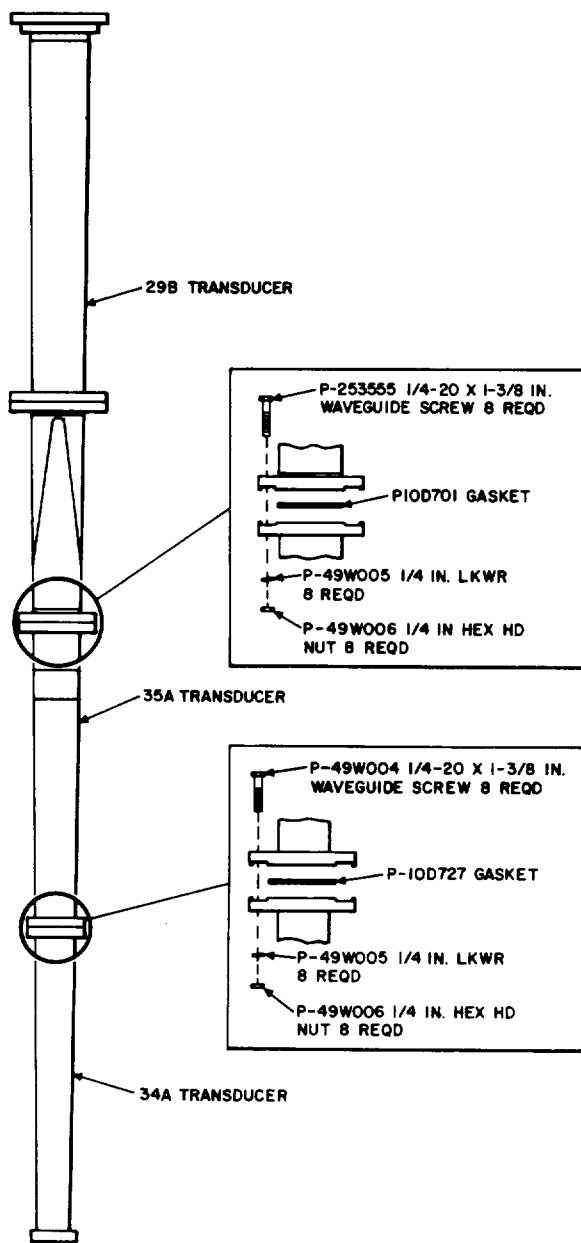

Fig. 19—Installation of 29B to 35A to 34A Transducer
**3.03** When there will be no 4-GHz and 6-GHz radio systems equipped, the 35A transducer is attached directly to the 29B transducer as shown in 3.01. In addition, the 34A transducer is attached directly to the 35A transducer as shown in Fig. 19. The network after the 34A transducer (1424A) is installed as described in Part 2.